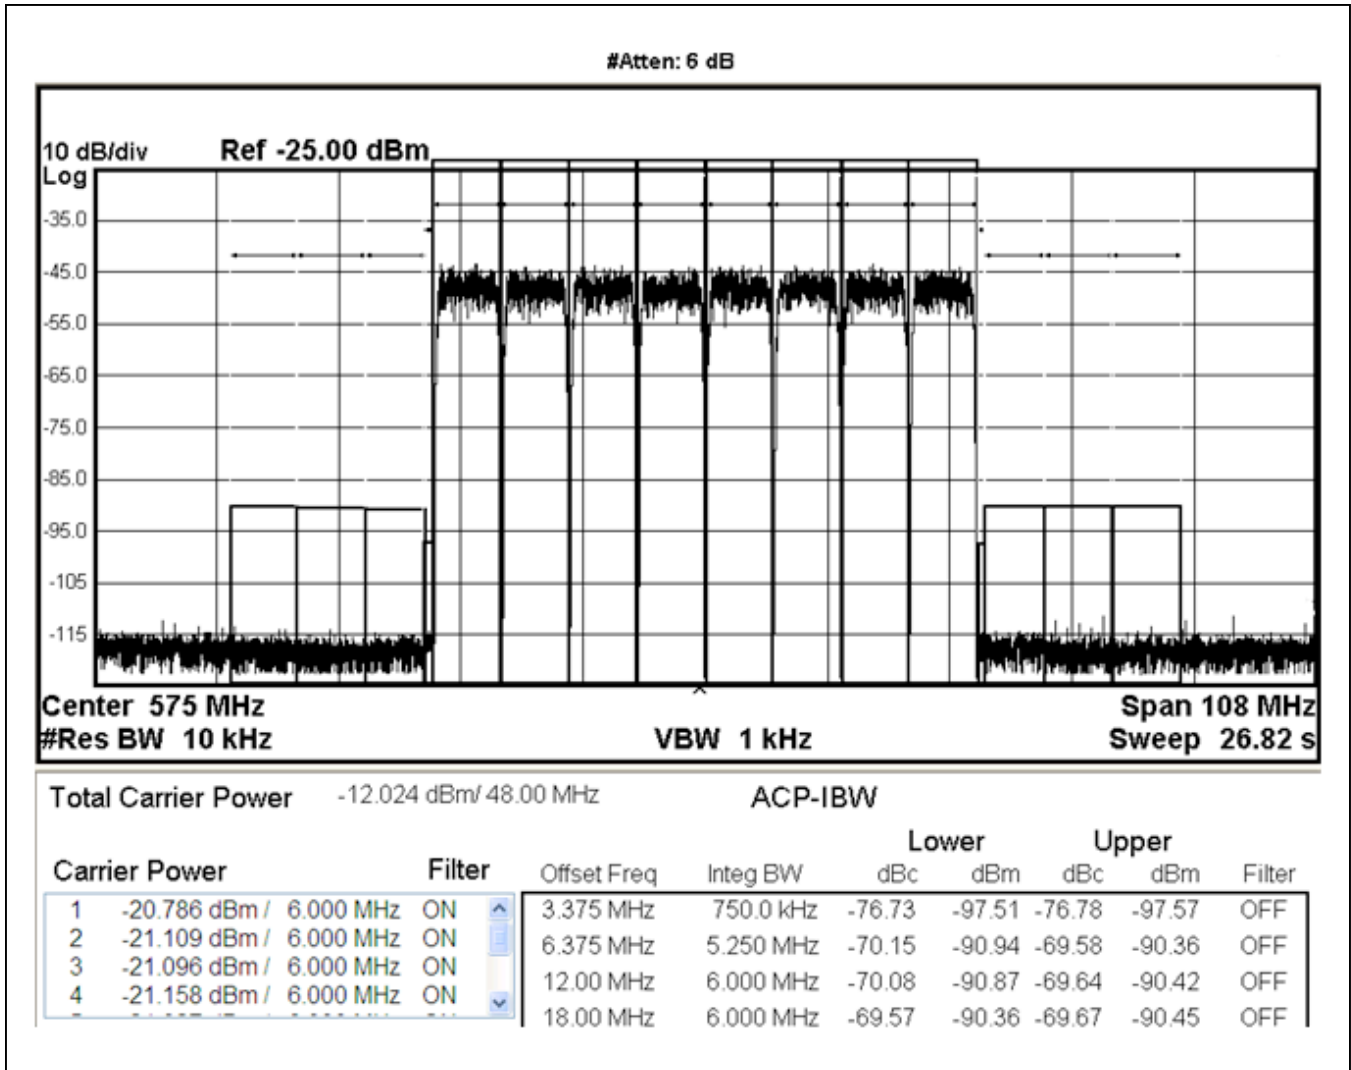

Figure 2. Spectral Output – Test Case #1, 8 SCQAM at 575MHz
- ii. A window will open displaying a screen captured from a spectrum analyzer (Figure 2)